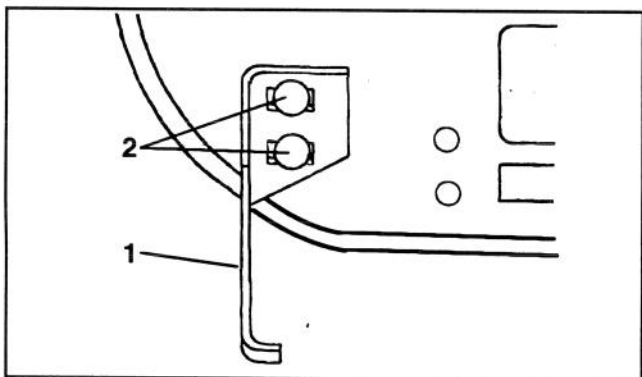

Figure 4
8. Remove (2) carriage bolts and lock nuts securing quadrant to mower deck and remove quadrant (Fig. 4).